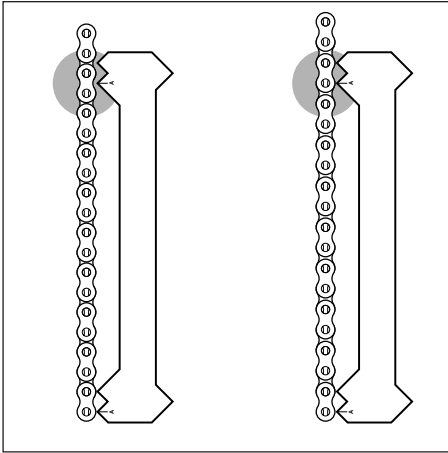

FIGURE 1
3. Using figure 1 as a guide, measure the gaps at the points shown (just beside each lower wear pad) by sliding the gauge stack between the lower fork bar and the lower spine bar.
SEE ( FIGURE 1 )